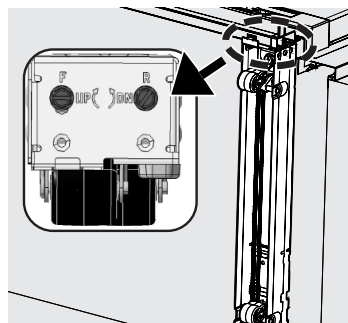

Fig. 4
- b. Using a 5H bolt and a power drill, fasten the bottom of the Leveler Assembly with a $\frac{3}{8}$ " hex drill bit in whichever hole overlaps the screw hole (Fig. 4).